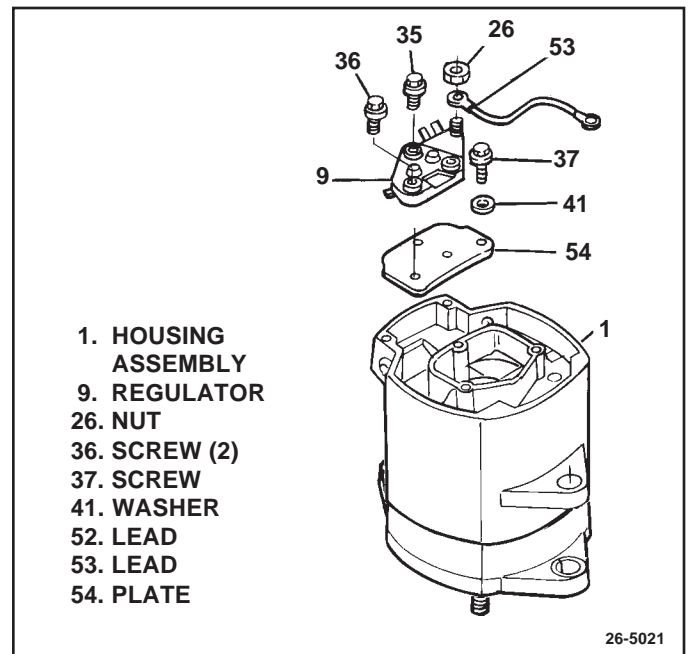

Figure 13. Removing Regulator
To remove regulator (9) for testing, remove sense lead nut (26) and grounded mounting screw (37). (See Fig. 13) It is not necessary to remove the regulator mounting plate (54), but it may come off with the regulator (if it does, pull the plate from the regulator and place it back in the alternator to keep from contaminating the grease). Check regulator on approved tester for SI type regulators. If regulator tests "good", return it to service. If it tests "bad", replace it. Install regulator as described later in this section.